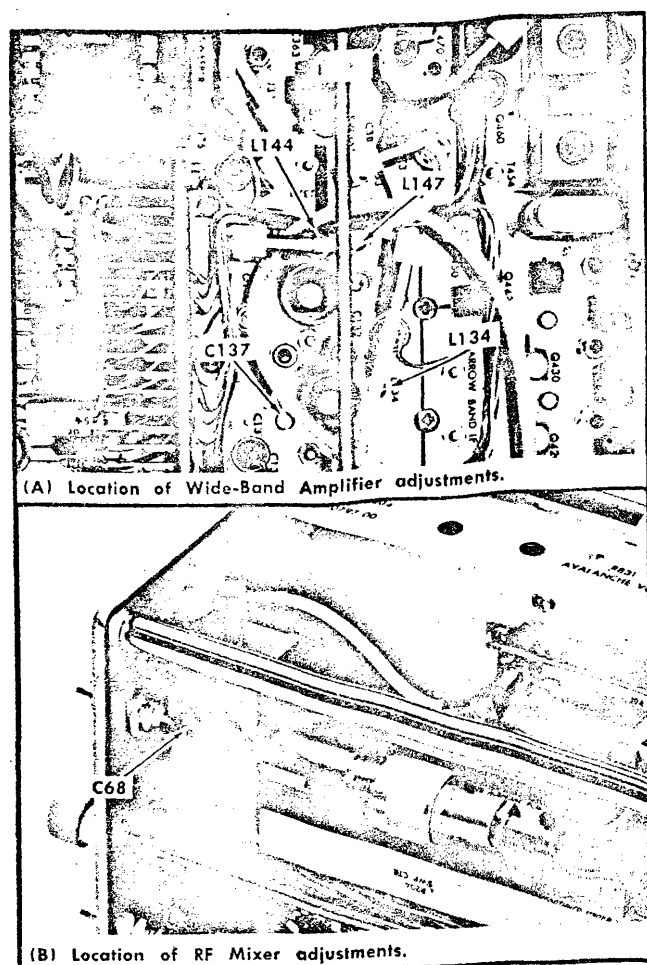

Fig. 6-26. Wide band IF amplifier and 1st mixer adjustments for response flatness.
- Adjust C68 in the RF mixer (Fig. 6-26) for optimum signal amplitude and display flatness over the 100 MHz dispersion. (+ and -50 MHz either side of 1000 MHz.)
17. Adjust Wide Band Amplifier Response, ① Check Response Flatness of RF Mixer and Wide Band IF Amplifier
- d. Adjust L147 (Fig. 6-26) the 65 MHz trap, for minimum response to the 65 MHz signal. This will be indicated by a decrease in the vertical displacement of the plug-in oscilloscope trace.
i. If the response flatness is not within tolerance, adjust C137 and L134 (Fig. 6-26) for maximum sensitivity and analyzer response flatness. Adjusting C137 will usually produce a noticeable effect on the response slope. Adjust L134 for optimum sensitivity at the high frequency portion of the IF response.